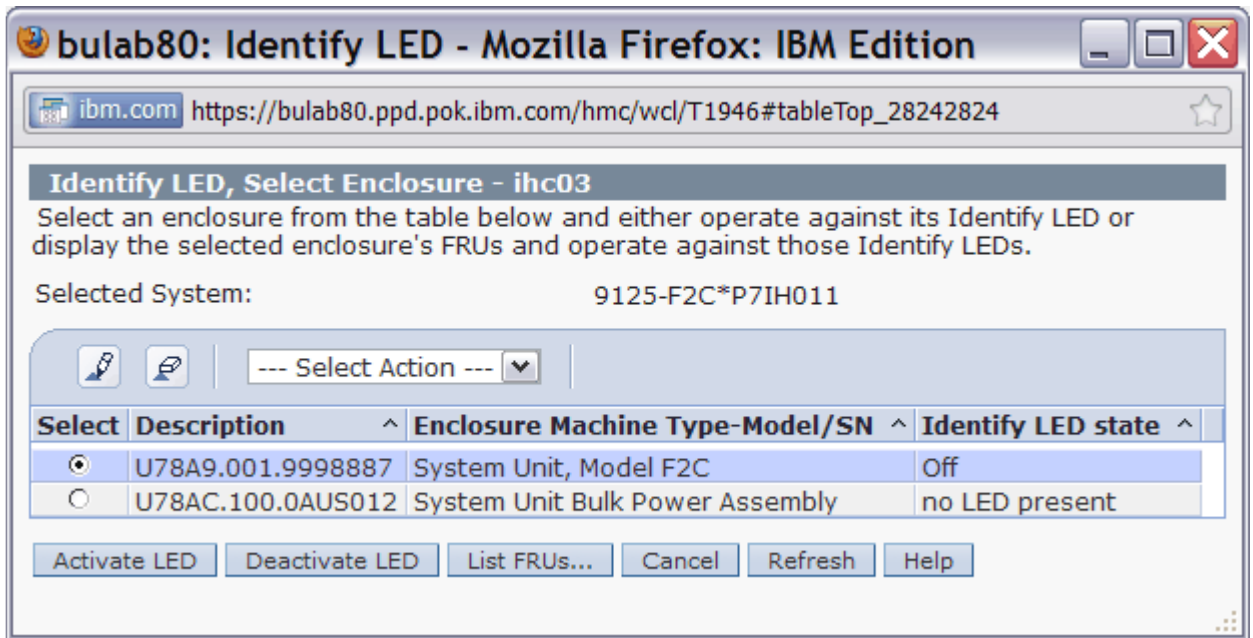

Figure 6 System Unit, Model F2C Selection
- STEP 5 In the window titled **Identify LED, Select Enclosure** *select System Unit, Model F2C* then *click the List FRUs...* button (see Figure 6).